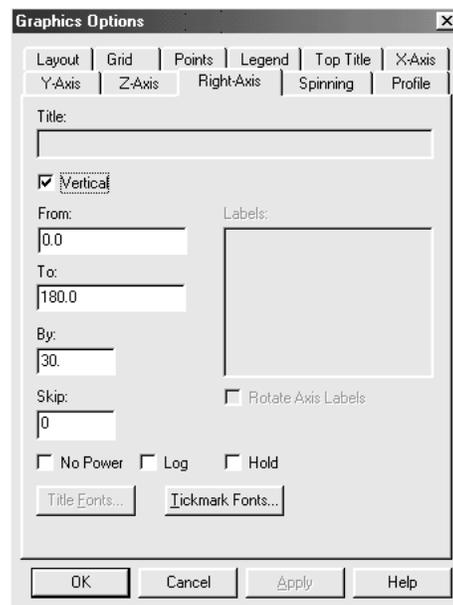

Figure 5-12. Right Axis Tab Page
4. Click the left button on the graph, the right to display the pop-up menu, then the left on Graphics Options to display the Graphics Options dialog box opened to the Right Axis tab page (see Figure 5-12).